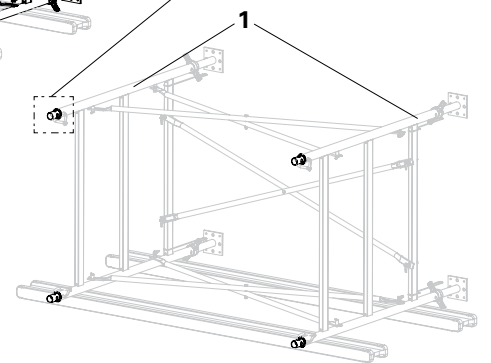

Fig. A2.05
3. Insert four Connectors with Washers (3) into the PD 5 Frames (1) of the lower level and secure them on one side using the Double Pin Frame (8). (Fig. A2.05 and Fig. A2.05a)